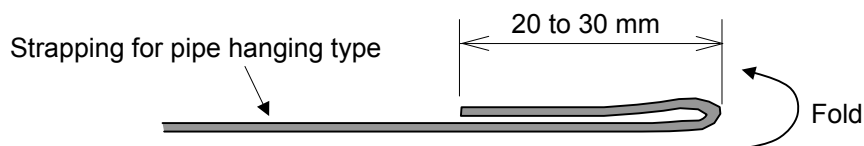

Fig. 2-3-11
2. Fold the strapping for pipe hanging type at 20 to 30 mm from the edge. (Fig. 2-3-11)